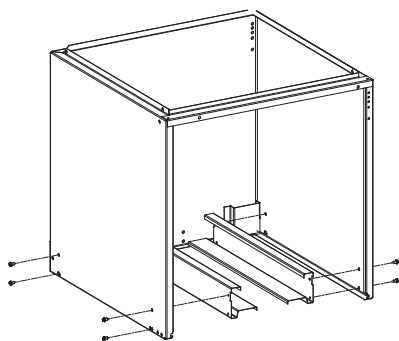
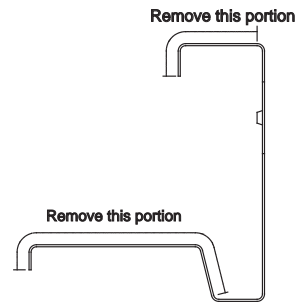

Fig. 3 – Channels Removal
Fig. 4 – Channel Cutting
3. Remove the two internal side channels from existing casing by removing 4 screws each side (see Fig.3, recommended procedure). When screws cannot be reached, cut top and bottom portions of the channels as indicated in Fig. 4.